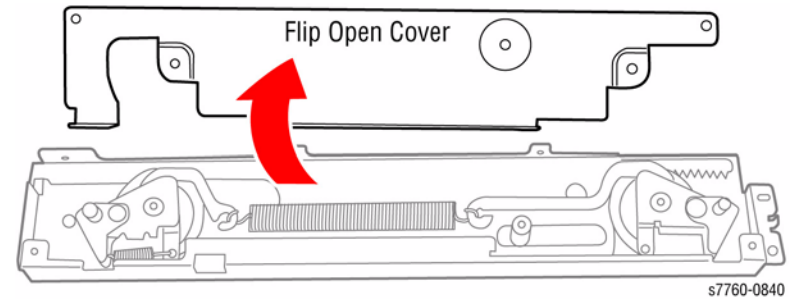

Figure 4 Cover Removed
2. Flip open the Cover Plate (Figure 4).